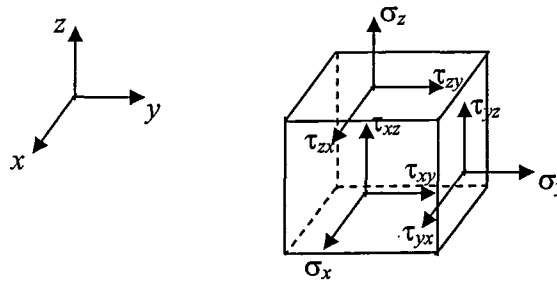

Figure 1
1. (a) Explain the meaning of a homogeneous isotropic body. Figure 1 shows an infinitesimal volume in a three dimensional body under stressed condition. Derive the constitutive equation $\boldsymbol{\varepsilon} = \mathbf{D}\boldsymbol{\sigma}$ for the case of a homogeneous isotropic elastic body where :
- (b) The sets of equilibrium equations and strain-displacement equations for an infinitesimal volume in a three dimensional body as shown in Figure 1 are given as follows, respectively: